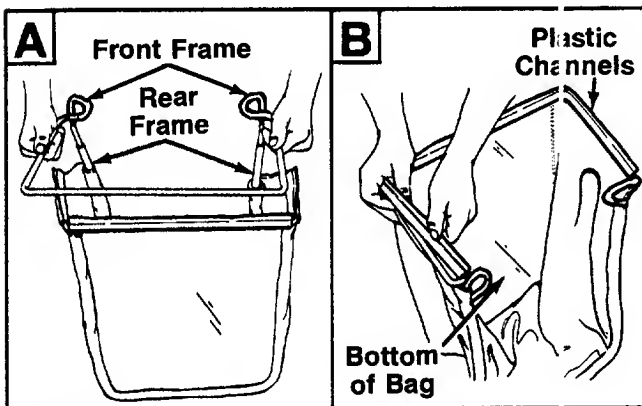

FIGURE 12.
2. Slide the ends of the front frame assembly into the ends of the rear frame as shown in figure 12.
3. Secure front of bag to front frame by slipping plastic channels on sides and bottom of bag over frame. See figure 12.